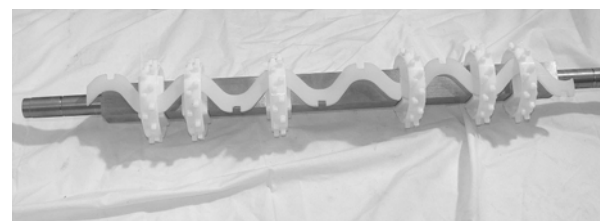

Figure 70
2. Slide the entire assembly onto the drive spindle (Figure 70).